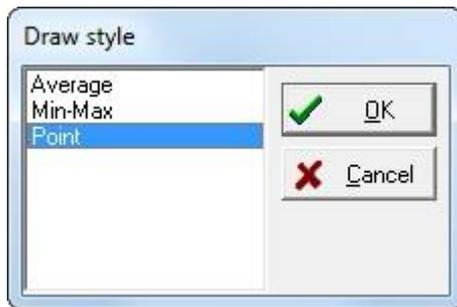

Fig. 44 Draw style.
- **Style** is used to set Draw Style (Fig. 44).